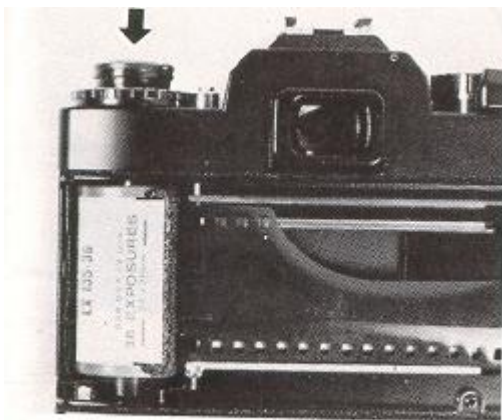

Fig. 5
4. Push down Film Rewind Knob (1) to its original position by turning Film Rewind Crank (2) clockwise or counterclockwise so that Film Rewind Shaft (27) engages the film cartridge and that the film cartridge is seated in place (Fig. 5).